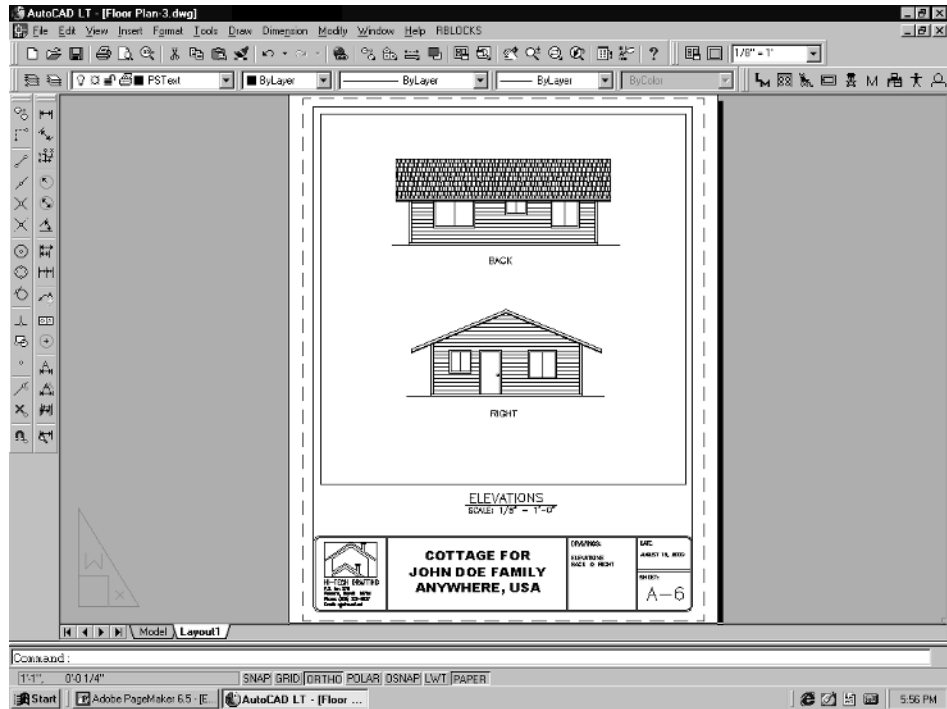

Figure 4-66
- Go ahead and print this sheet. When the printing is done, pick the **PAPER** button down on the status bar. It will change to **MODEL**. Use Realtime Pan to pan to the other two elevations. Center the elevations in the viewport, then pick the **MODEL** button on the status bar to change back to paper space. Change the text **FRONT** and **LEFT** to **BACK** and **RIGHT**. Also change the sheet number, etc., then print. See Figure 4-66.